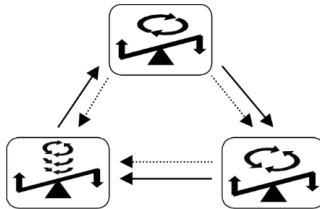

Figure 1. Innovative mixing cycle
- all three in one cycle (see figure 1)